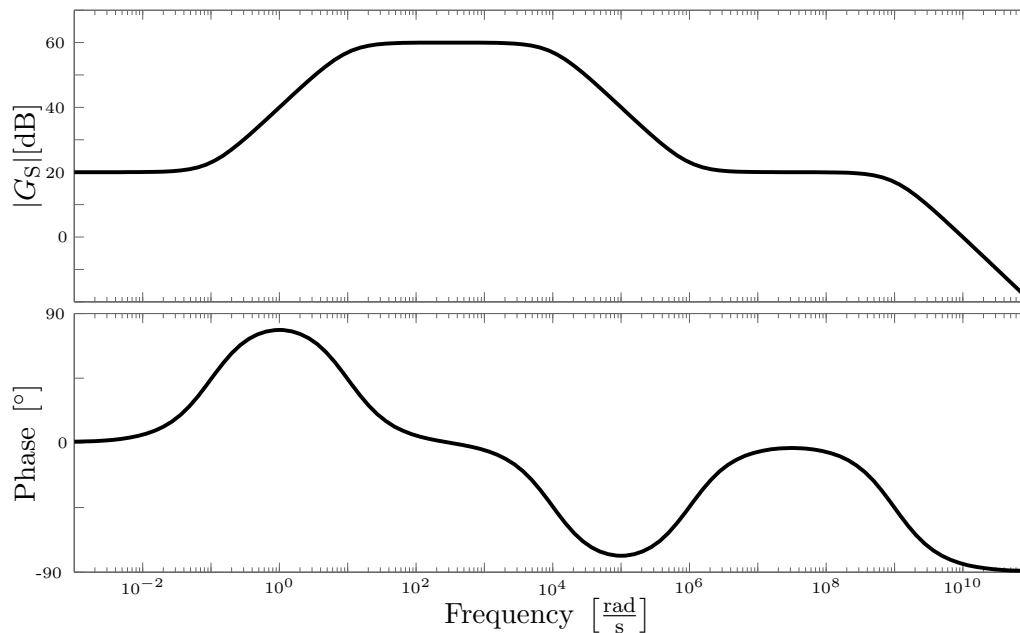

Figure 5.1: Bode plot of a system
A transfer behavior of a system was measured and is displayed in Figure 5.1.
- Draw in the asymptotes for the amplitude and phase behavior in Figure 5.1.
- State the transfer function $G_S(s)$ for the given system (Figure 5.1) by using the break-point frequencies ω_i (qualitatively). State also the gain K_S .